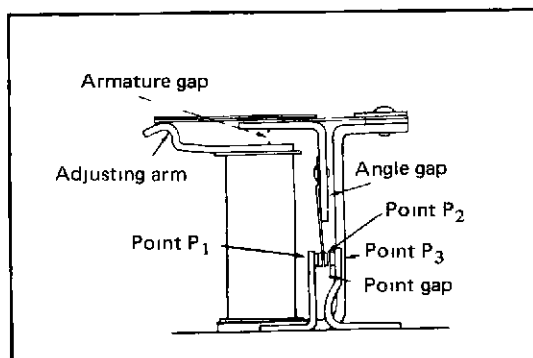
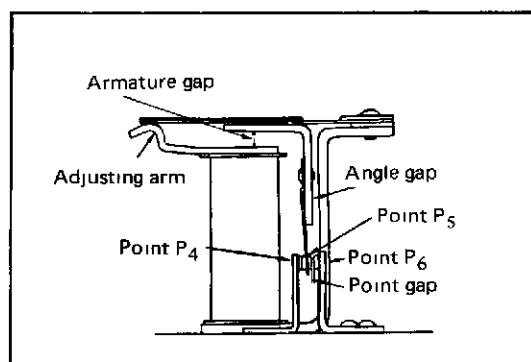

Fig 7-113 Names of Regulator Parts
Fig 7-114 Names of Relay Parts
3. Refer to Fig. 7-113 and Fig. 7-114 for HU and Fig. 7-113 for HJ.